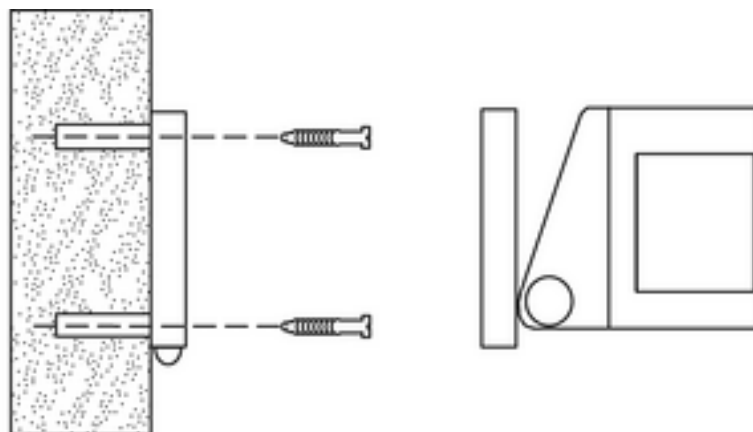

Figure 15: Installation on a flat wall
- Fasten connection box to the wall with 2 screws so that the condensation water hole is at the bottom (Figure 15).